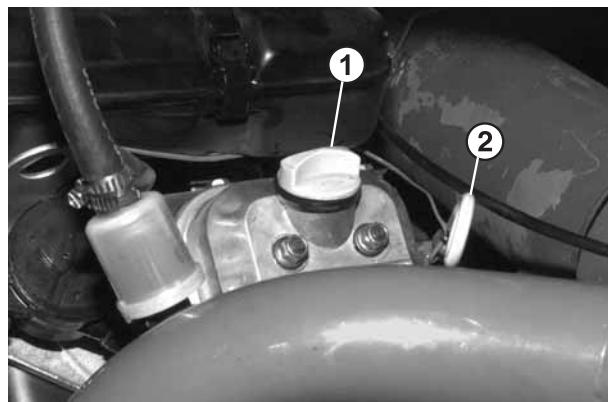

Figure 9.5.1
- 3 Remove the filler cap (Fig. 9.5.1) and refill with fresh oil up to the maximum level on the dipstick (Fig. 9.5.1).